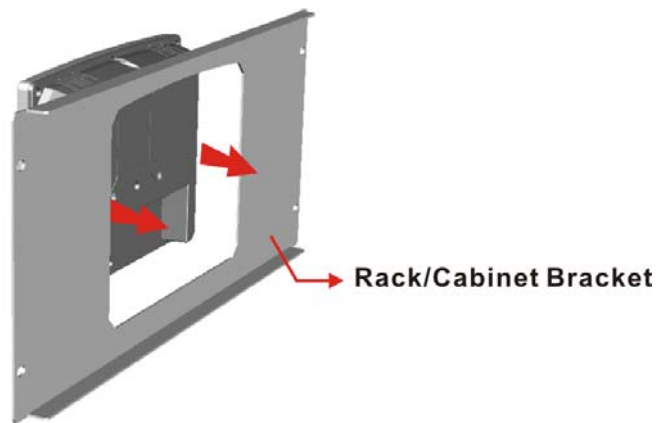

Figure 3-14: Rack/Cabinet Bracket Installation
Step 1: Slide the rear chassis of the AFL3-W07A-BT-N1 flat bezel panel PC through the rack/cabinet bracket until the frame is flush against the front of the bracket (Figure 3-14).